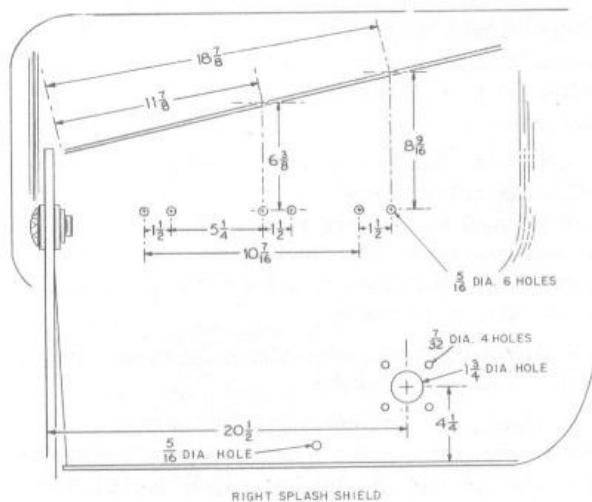
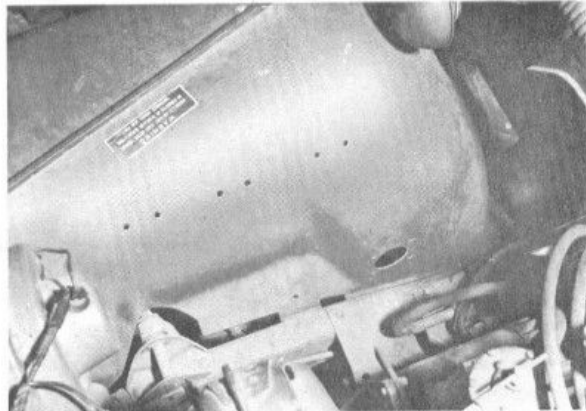
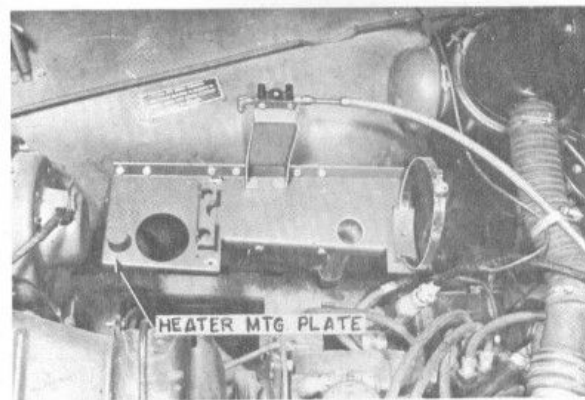

Figure 3
Figure 4
Figure 5
2. Using the dimensions shown in Figure 3, locate and drill two 5/16-inch holes, one at the extreme right, and one at left center of the vehicle's splash shield. Locate these holes carefully from the dimensions shown and then place the heater mounting plate in position as shown in Figure 5. Temporarily attach the plate and use it as a template to locate the remaining four holes in the splash shield. (Figure 4.)
4. Remove the mounting plate and drill four holes at the top and one at the bottom, using a 5/16-inch drill (Figure 4).
5. Before installing the heater mounting plate, locate and drill a 1 3/4-inch hole for the heater exhaust elbow, using the dimensions shown in Figure 3, and then use the elbow as a template to drill four holes for the elbow mounting screws (7/32 in. dia.).
washers and nuts at the top and one 1/4-20 x 1 3/4 cap screw through the support bracket at the bottom (Figure 5). Place the two reinforcing plates on the outside of the splash shield when installing the screws at the edge of the mounting plate to provide the additional strength required to support the weight of the heater.